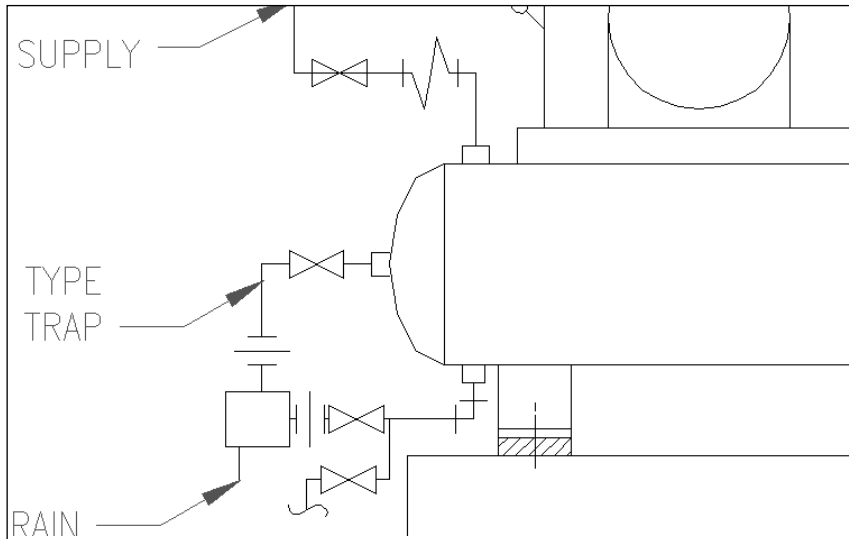

Figure 10-17: The completed clamp in two views.
9. Save your drawing. It should look like Figure 10-17.